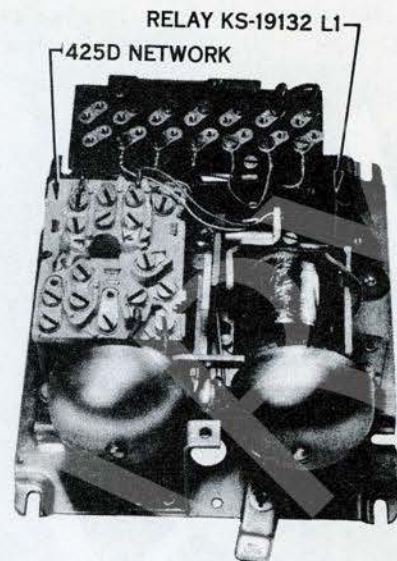

Fig. 7 - 685C Subscriber Set, Internal View
- (c) 685C: For use in 2- and 4- wire circuits (Fig. 7).